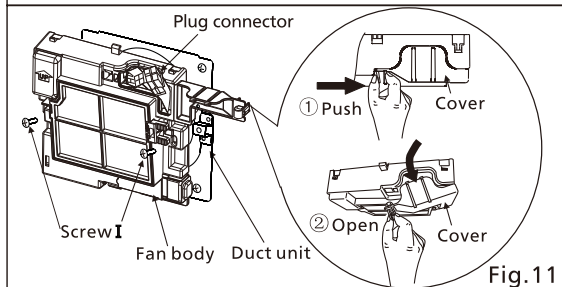

Fig.11
11. Open the cover in the top right corner of the fan body to allow the junction box pigtail and plug to come through. Insert the plastic duct of the fan body into the metal duct unit and secure it with 2 screw I (M4X10) in accessory. (Fig.11)